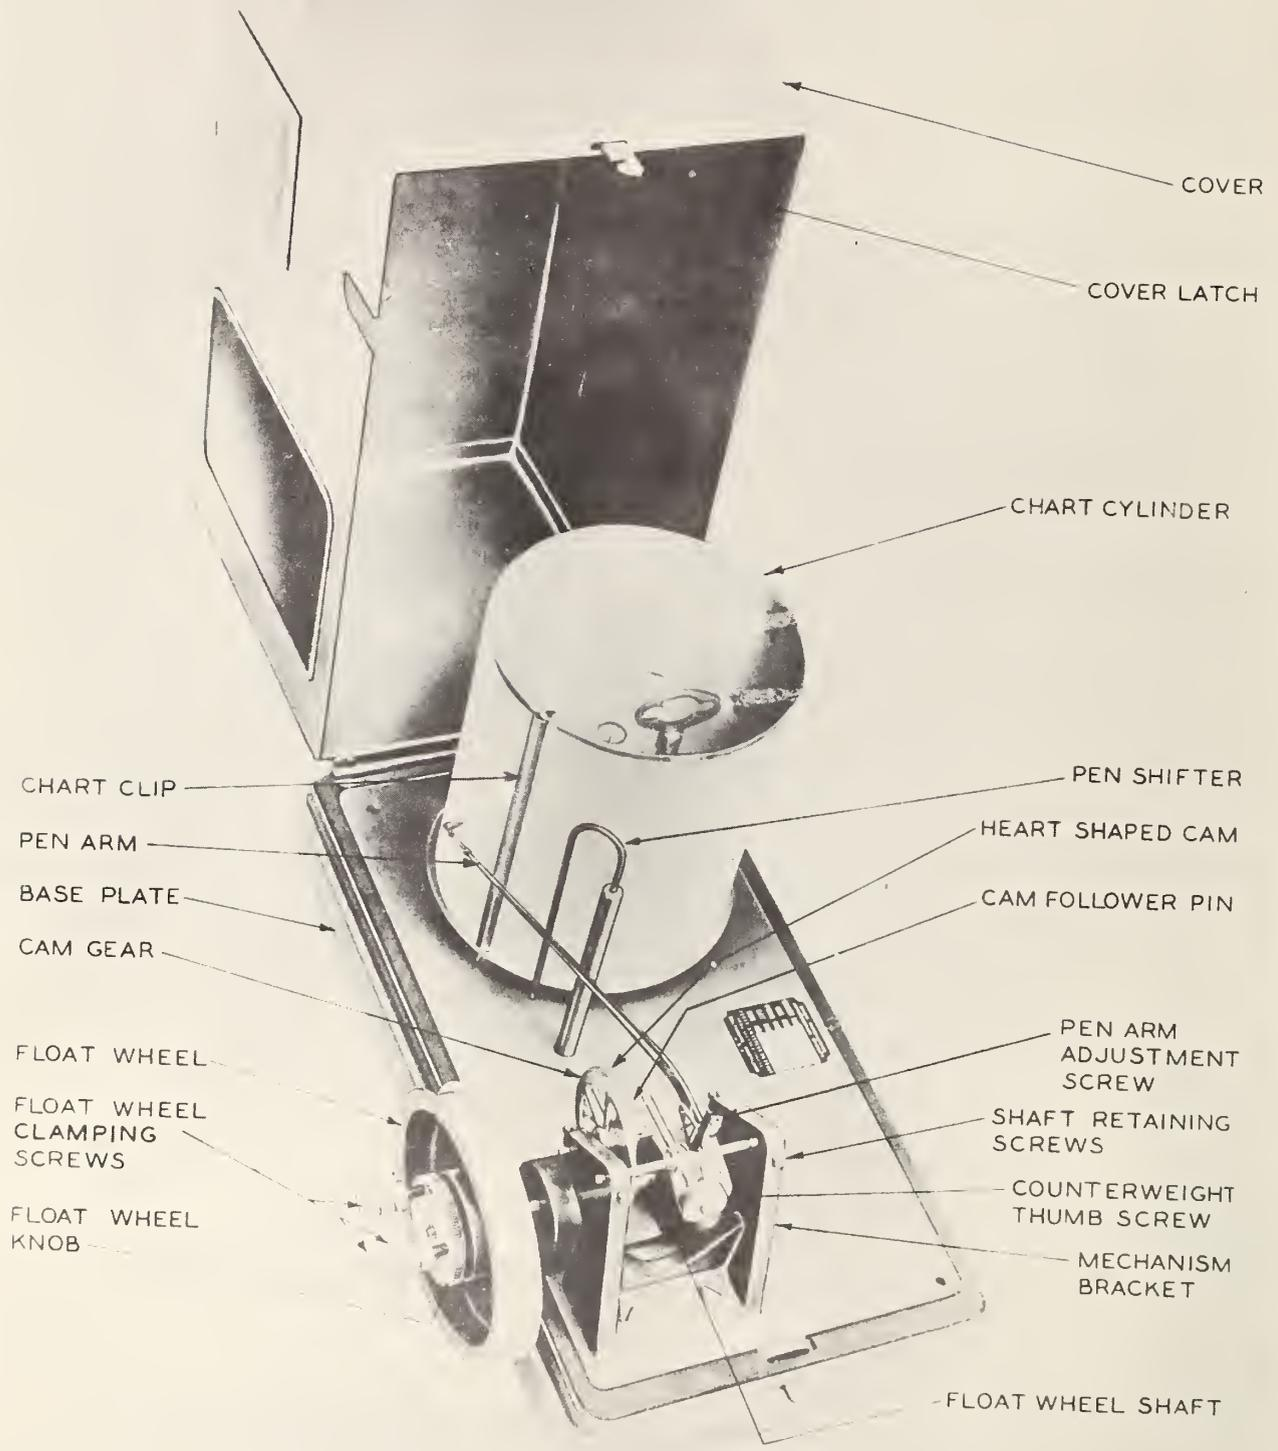
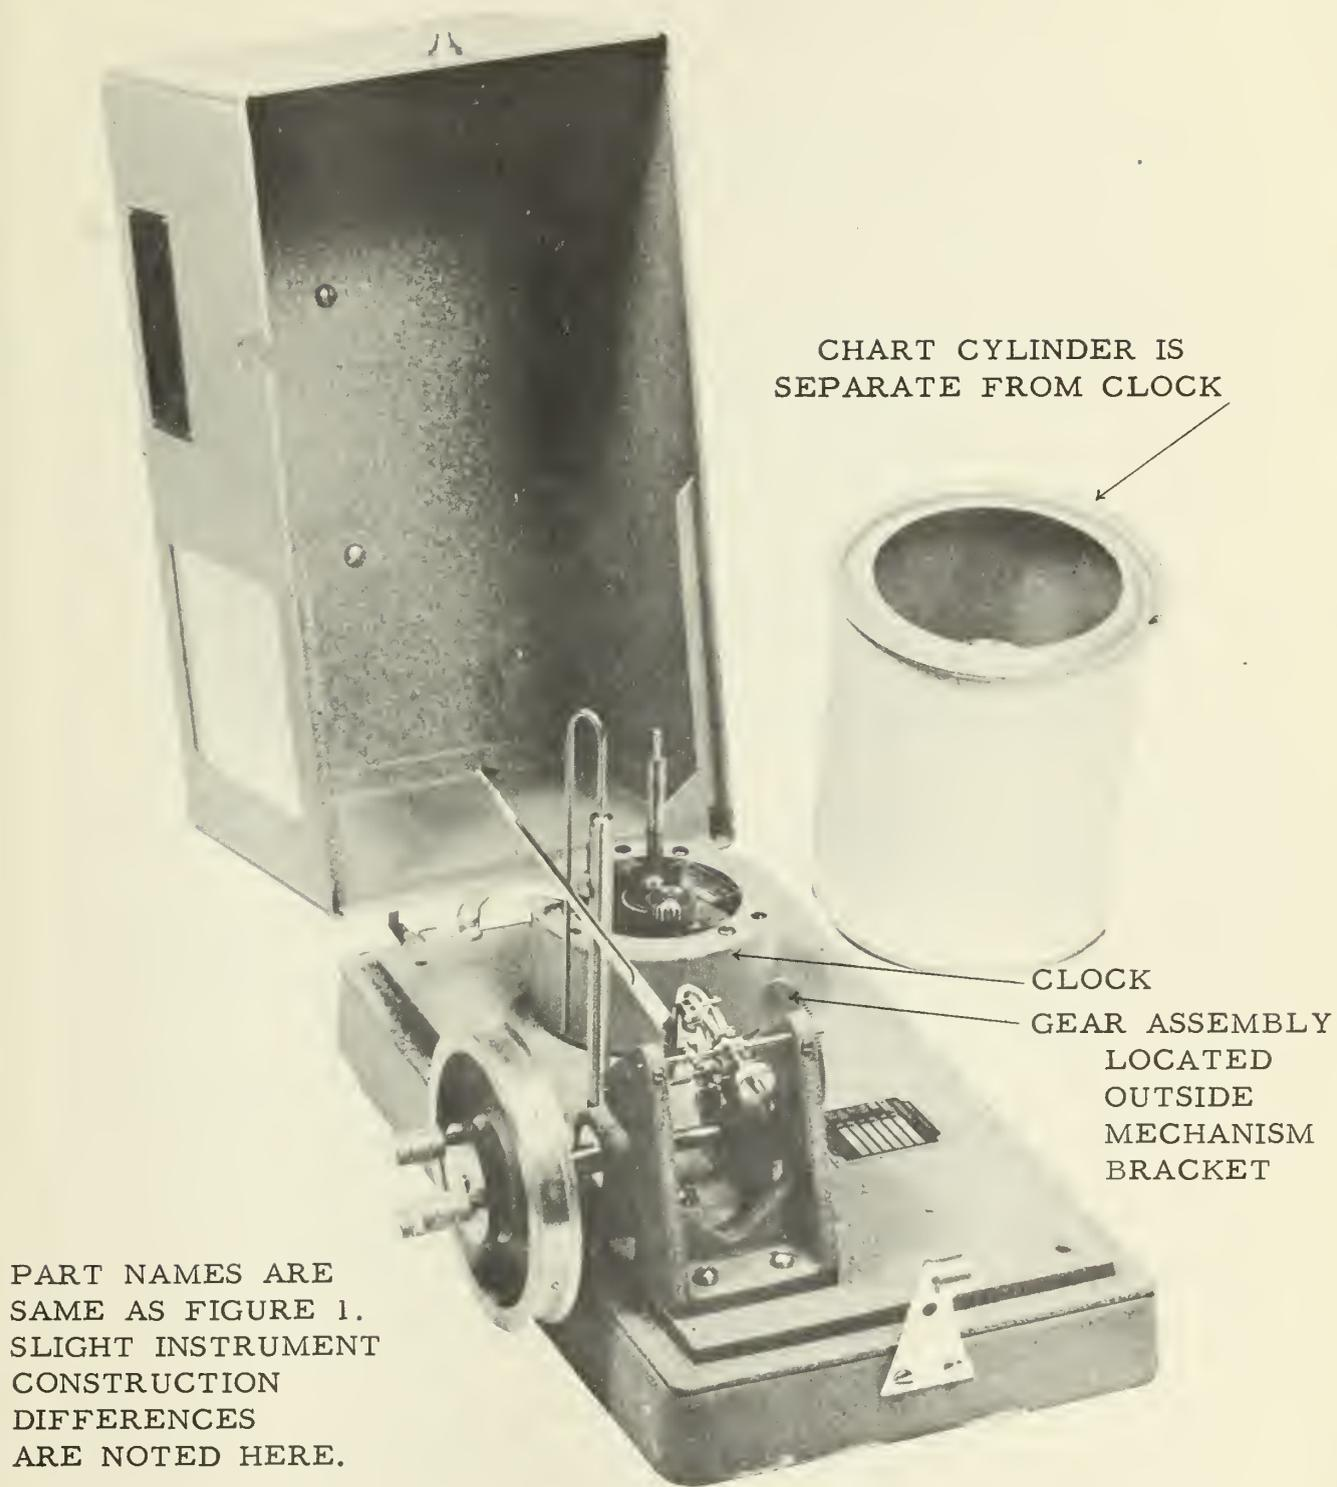

Figure 1.--Type A. Portable water recorder,
Figure 2. --Type B. Portable water-level recorder, Model FW-1.
These instructions are intended for field personnel responsible for the operation and maintenance of FW-1 water-level recorders manufactured by the Belfort Instruments Corporation2 or the Bendix Corporation. Two types of recorders have been manufactured by these companies. One has the clock mechanism contained in the chart drum (fig. 1), here called type A; and the other in which the clock is separate from the chart drum (fig. 2), here called type B. The instruction booklets that come with the instruments omit detailed directions for cleaning and adjusting the instrument. Instead, they recommend sending the recorders back to the factory for such adjustments. Under field conditions this is often impossible. This set of instructions should assist field personnel in making on-the-spot adjustments and in tearing down, cleaning, and readjusting the instrument in a shop or laboratory.
1. Before adjusting the instrument, the float, float tape, and weight should be put on the instrument (see fig. 1 for part names). A check should be made of the distances the pen registers with respect to the float. The float and pen should be checked at 0.1-foot intervals starting at zero and continuing through the reversal at 1 foot and back down to the 2-foot reversal. If higher flows have been encountered since the last servicing, continue the check to maximum peaks. If discrepancies exist the pen register and distance traveled by the float should be recorded on a chart which then can be used to correct past records. Extend corrections as far back on past charts as seems warranted.
2. Open instrument and remove chart cylinder (see fig. 1 for part names).
6. Remove wing nut, clock shaft, gear, washer, and clock (on type B instruments, see fig. 2) from base plate.
- a. Remove 24- or 96-hour gear from base of clock or top of clock (on type B instruments, see fig. 2) with a twisting motion after pin and washer are removed. Clean gear with toothbrush and solvent. Clean the shaft the gear was on with tissues or steel wool if corroded. Hold upright or upside down (on type B instruments) to prevent steel wool from dropping in clock.